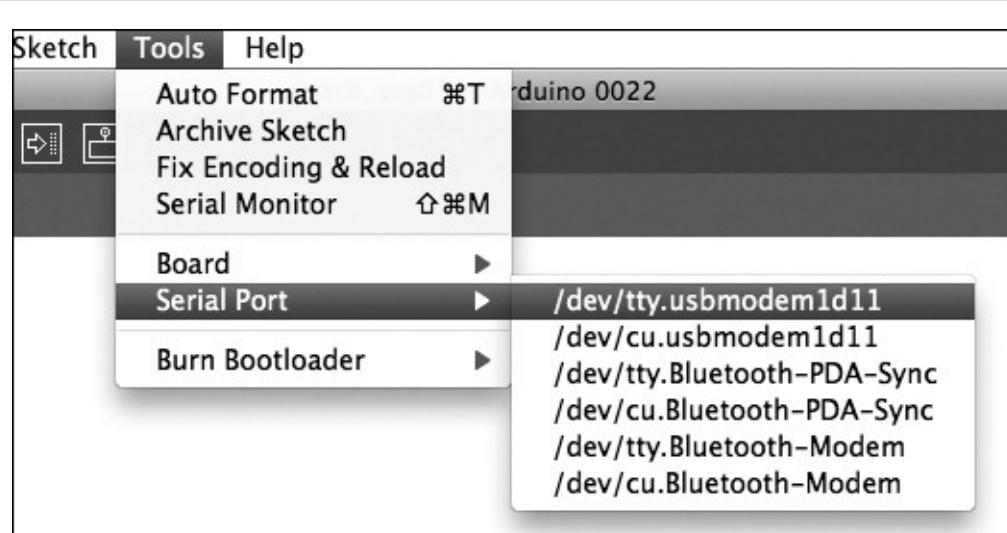

Figure 1-13. Selecting the USB port
3. You're almost there—just two more things to do before your Arduino IDE is ready to use. First, you need to tell the IDE which type of socket the Arduino is connected to. Select **Tools ▶ Serial Port** and select the **devtty.usbmodem1d11** option, as shown in Figure 1-13.